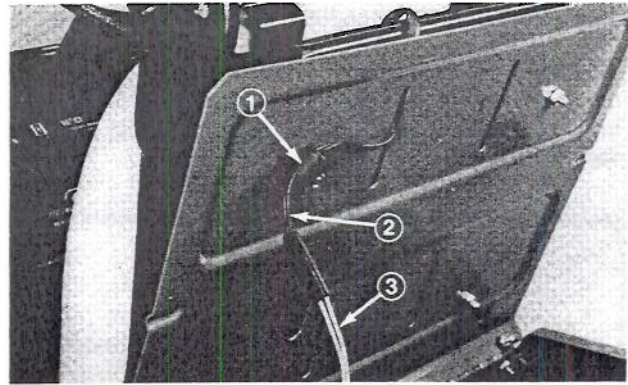

Figure 4
3. Loosely secure lower slides to seat plate with capscrews and locknuts. Using left rear mounting screw, secure R-Clamp to underside of seat plate (Fig. 4).
4. Slide seat onto slides from front, routing seat switch wire thru slot in seat plate (Fig. 4).
6. Route seat switch wire thru R-Clamp, plug into jumper wire and secure jumper wire to wire harness (Fig. 4).